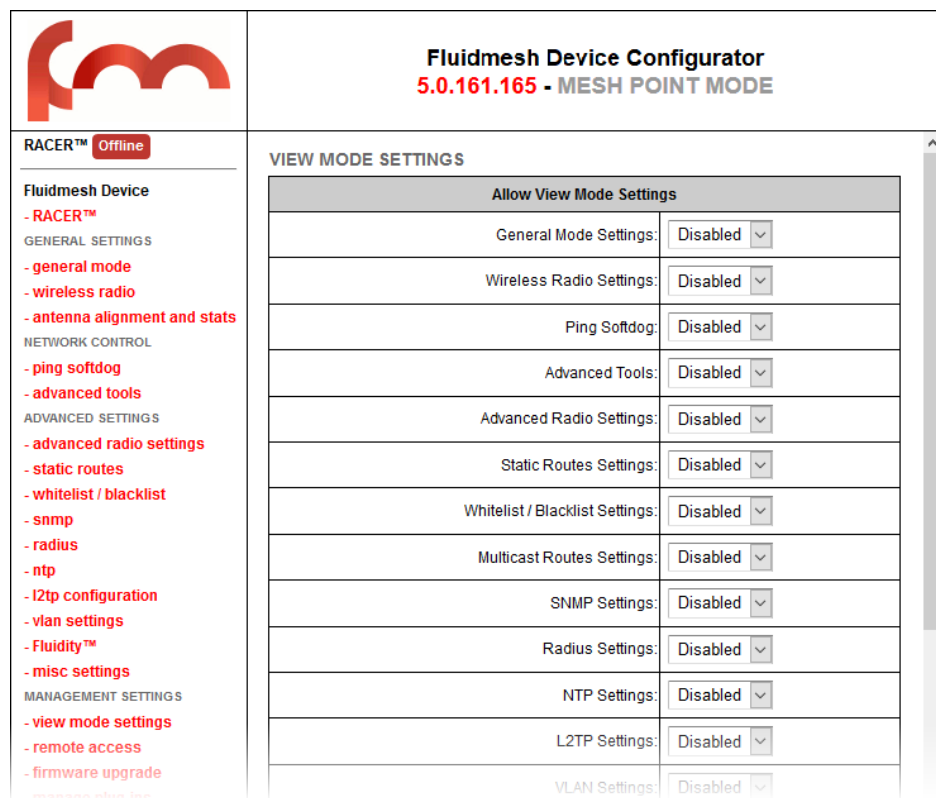

Figure 51. Configurator GUI (VIEW MODE SETTINGS dialog)
2. Click the **-view mode settings** link under **MANAGEMENT SETTINGS** in the left-hand settings menu (Figure 51 \(page 129\)).